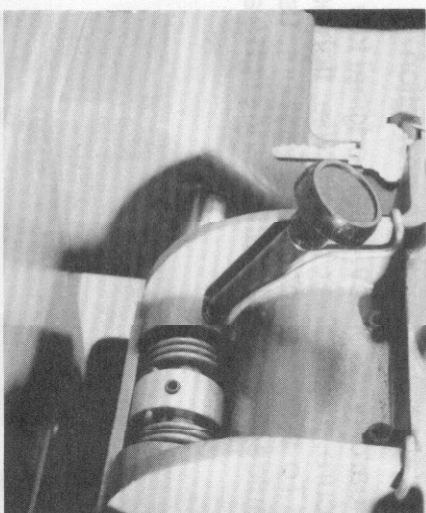

FIGURE 1
2. Install ball detent plunger assembly in yoke (See Fig. 1) with $5/16$ " wrench.